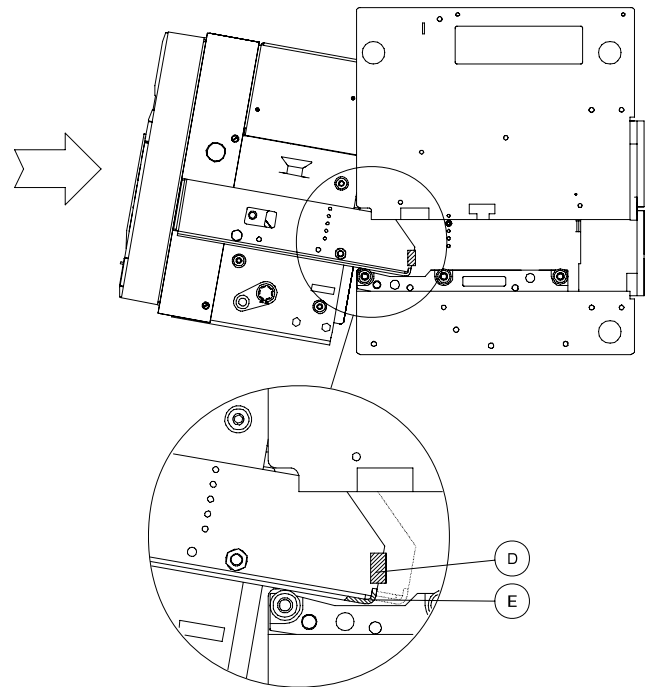

Fig. 29
Lift the moving part as shown in the paragraph (3) and insert it in the fixed part guide, tilting it as shown in figure 29.